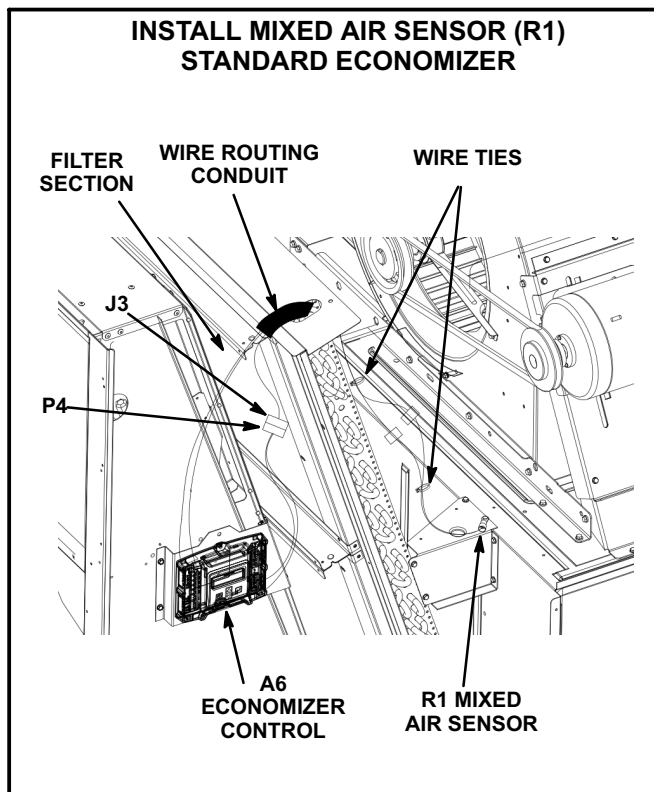

FIGURE 3
- 3- Install mixed air sensor, provided in kit, on indoor coil bracket. Secure with screw as shown in figure 3.
- 4- Locate the plastic conduit on top of the filter rack. Route the mixed air sensor wires through the conduit to the mixed air sensor. See figure 3.
- 5- Connect wires to terminals on mixed air sensor. See figures 3 and 5. Sensor is not polarity sensitive.
- 4- Locate the plastic conduit on top of the filter rack. Route the mixed air sensor harness through the conduit to the mixed air sensor. See figure 3.
- 1- Locate 15-pin J3 economizer jack harness hanging on left side of filter compartment. J3 is located in the same area on both standard and high performance economizers. See figure 3.
- 2- Disconnect P3 jumper plug from J3 and retain jumper plug for future troubleshooting. Connect 15-pin P4 economizer plug on A6 economizer control harness to J3 economizer jack. See figure 3.